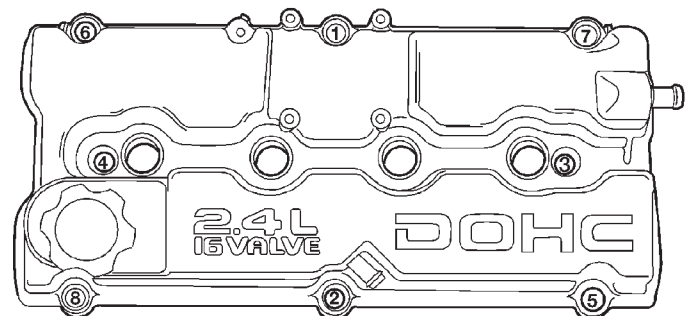

Fig. 32 Cylinder Head Cover Tightening Sequence
(2) Apply Mopar® Silicone Rubber Adhesive Sealant at the camshaft cap corners and at the top edge of the 1/2 round seal.
(3) Install cylinder head cover assembly to head and tighten fasteners in sequence shown in (Fig. 32). Using the 3 step torque method: